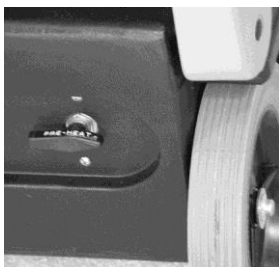

Fig. 4
3. Turn preheat / clean valve to preheat position and turn on pump and heater (Figure 4). This will preheat the entire contents of the solution tank.